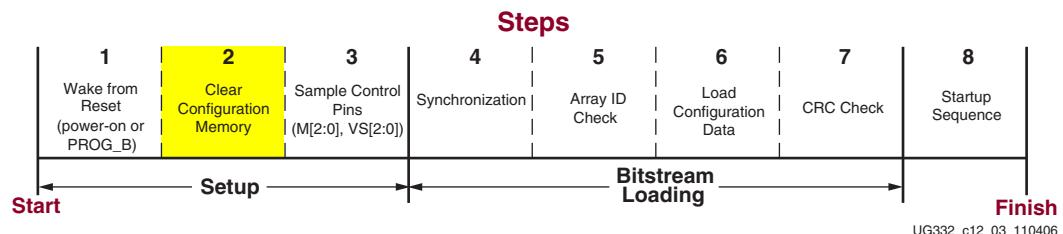

Figure 12-5: Clear Configuration Memory (Initialization)
2. Hold the **INIT\_B** pin Low during initialization, which stalls the configuration process in Step 2 shown in Figure 12-5, page 247. However, after the FPGA releases **INIT\_B** High, the application cannot subsequently delay configuration by pulling **INIT\_B** Low.